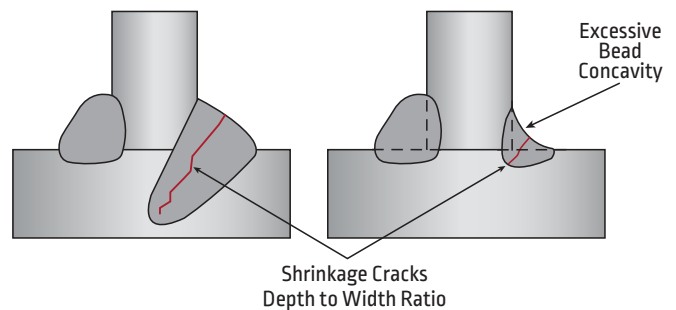

Figure 4-16: Shrinkage Cracks
Figure 4-16 shows two different solidification, centerline cracks. One crack is the result of excess penetration, while the other crack is a result of an excessively concave bead shape. Both cracks are examples of depth (D) to width (W) ratio shrinkage cracking. For other types of cracks and discontinuities, see Section 9.